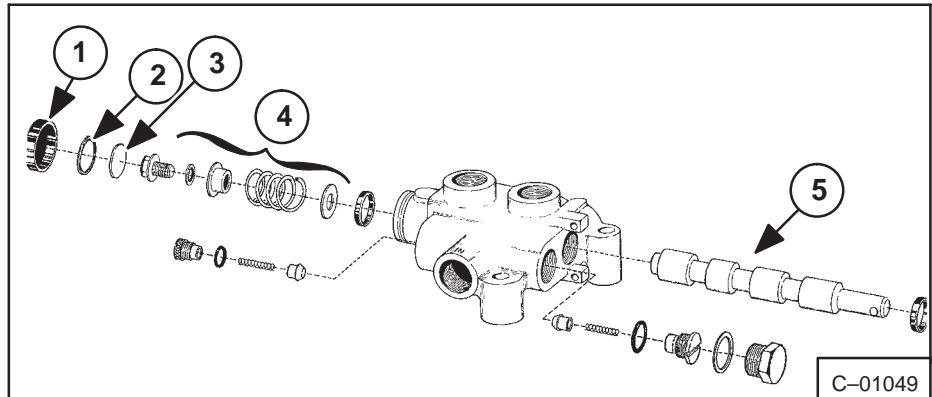

Fig. 4-19 Tilt Valve Parts
7. Install spool, through front of housing with spring fastening end of spool first (Fig. 4-19, Item 5).